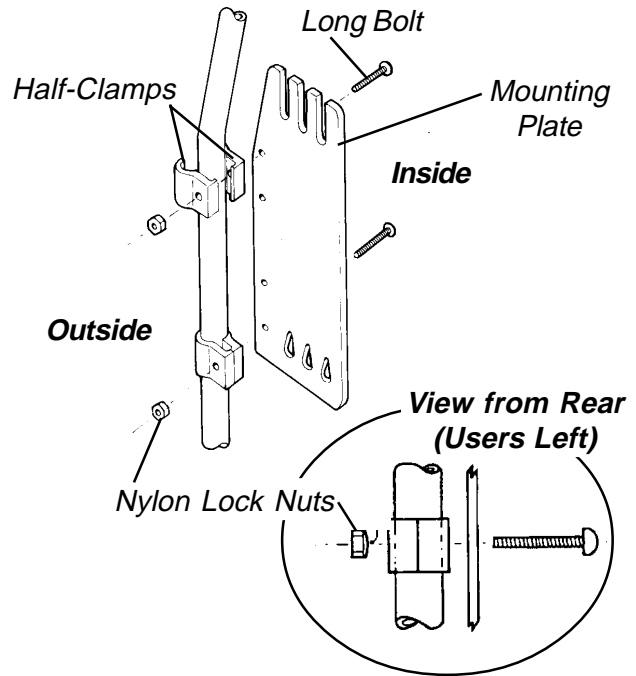

FIGURE 2 - INSTALLATION ON WHEELCHAIRS WITH 1-INCH (25MM) DIAMETER BACK CANES
### Installation on Wheelchairs with 1-inch (25mm) Diameter Back Canes (FIGURE 2)
- Insert two (2) long bolts (from the inside) through the small holes on the mounting plate, then through the half-clamps. Refer to FIGURE 2.
- Position one (1) insert onto the back cane with the insert opening facing the back of the wheelchair.